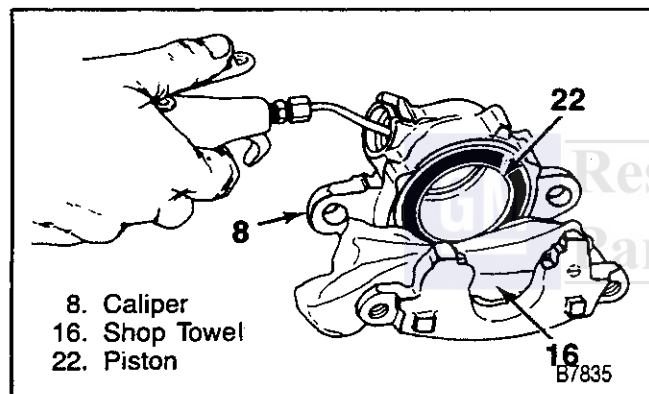

Figure 30—Removing the Piston
3. Piston (22).
- Direct compressed air into caliper fluid inlet (figure 30).